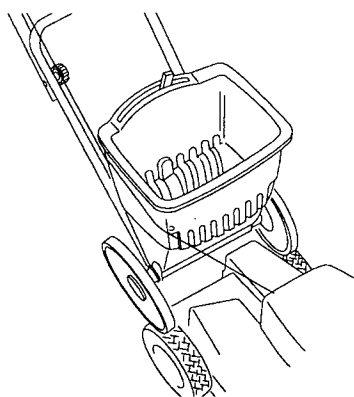

Figure 16
1. Place the spreader on your mower (Fig. 16). The wheels of the spreader must rest on the wheels of the mower.